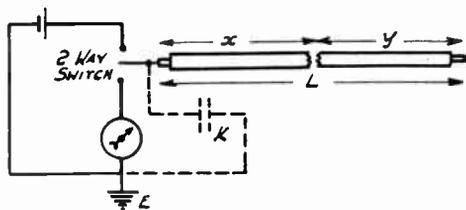

Fig. 2.—How to connect a battery galvanometer and a well-insulated two-way switch.
Assuming the faulty cable section does not exceed a few hundred yards and each end of the broken conductor complies with condition (A), connect a battery galvanometer and well insulated two-way switch as in Fig. 2. The galvanometer should be a highly sensitive moving-coil instrument, preferably of the suspended coil type. The two-way switch may be an ordinary two-way tumbler lighting switch of good insulation.
This is first put into the position which connects the cable to the battery and left on for a few seconds ; it is then switched to the other position which causes the cable to discharge through the galvanometer giving a deflection  $d_1$  which should be made reasonably large by adjusting the battery voltage. Now substitute a  $\frac{1}{10}$ th microfarad condenser, shown dotted in Fig. 2 (a wireless pattern is quite suitable), for the cable, using the same battery E.M.F. and repeat the switching operations, noting the deflection  $d_2$ . If  $K$  represents the capacity of this condenser, the capacity of the cable  $K_x$  up to the break from the testing end is given by